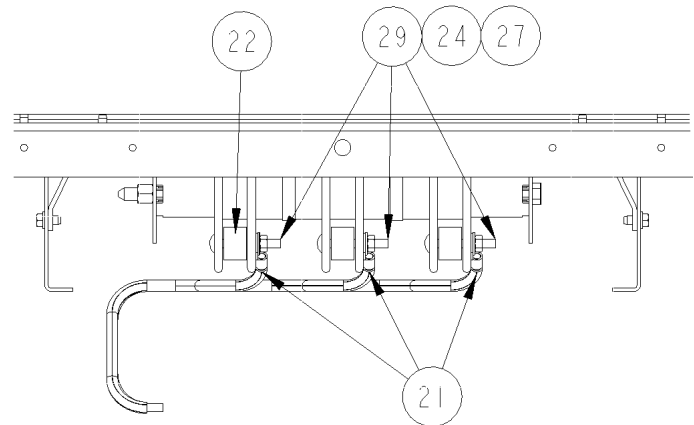

Figure 5. Plug-in assemblies with .281-inch square holes.
- *Plug-in assemblies, switchboard panels, and panelboards with .281-inch square holes available (double bus).* For each phase, slide a spacer [22] between the vertical bus bars and install a 1/4-20 x 2" carriage bolt [29] into a .281-inch square hole located towards the front of interior vertical bus, as shown in Figure 5. Use the uppermost holes in the 7X (9⁵/₈") space that the TVSS unit can reach.